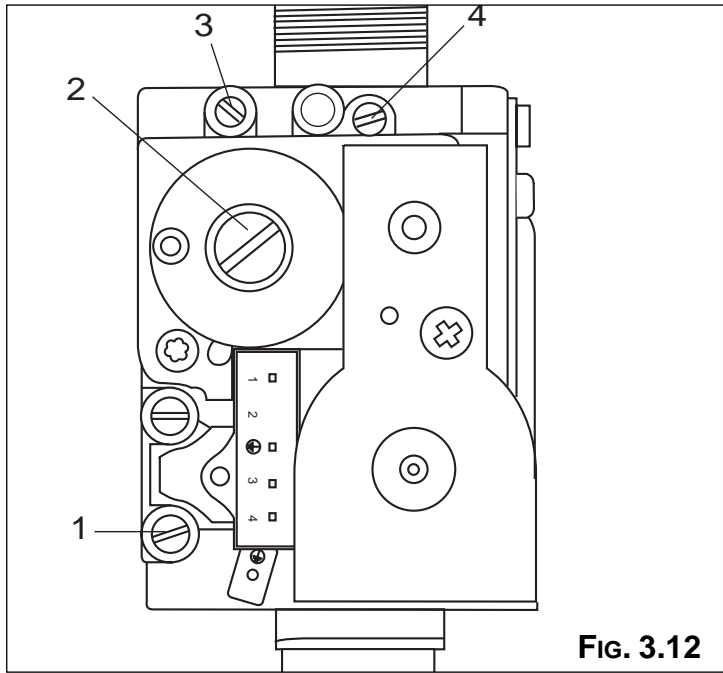

FIG. 3.12
1. Loosen screw "1" (Fig. 3.12) and insert the pressure gauge connection pipe into the pipe tap.
1. With the combustion analyser already connected to the analysis point, set the boiler to maximum power via the test function (see paragraph 3.6.1) or enabling the "flue sweep function" by pressing the Comfort key "K" for 5 seconds. Ensure the CO₂ value on the analyser corresponds with the value indicated in table 4D. If this is not the case, adjust screw "4" with a screwdriver (Fig. 3.12), until you obtain the correct CO₂ reading. Allow the reading to become stable for at least 4 minutes.